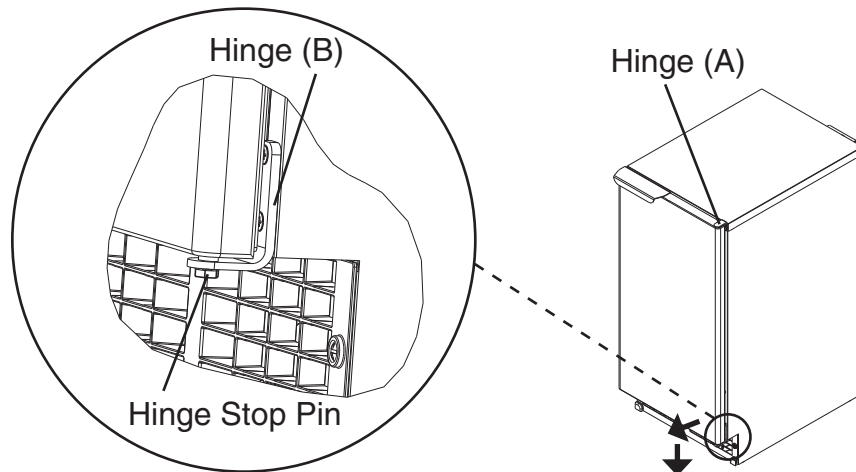

Fig. 5
- 3) While maintaining a hold on the door, remove the hinge stop pin from hinge (B). Pull out the bottom of the door slightly and gently remove the door from hinge (A). See Fig. 5.
- 4) While maintaining a hold on the door, remove the hinge stop pin from hinge (B). Pull out the bottom of the door slightly and gently remove the door from hinge (A). See Fig. 5.